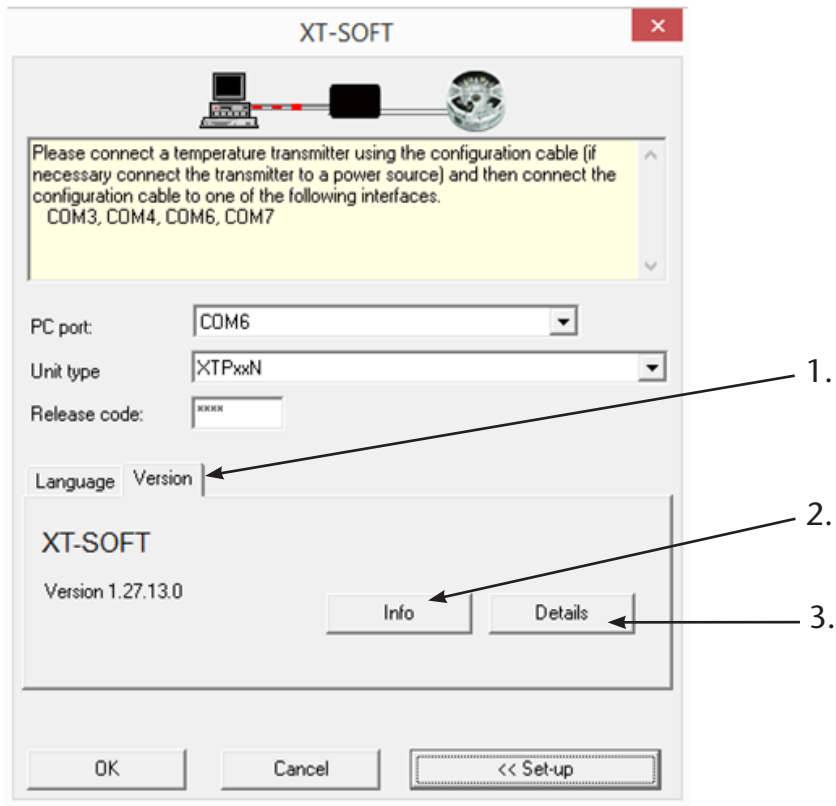

Figure 3
Under the Version tab (1) in Fig. 3 the program name and version is displayed. Use the Info button (2) to open this Help File document in .pdf format. The Details button (3) will open a new window and display information regarding XT-SOFT program components.